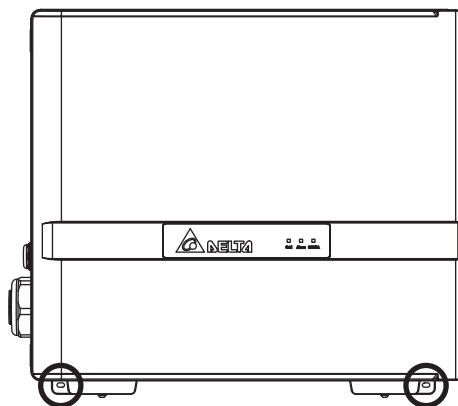

Figure 3-5: Positions of mounting screws
3. Secure the mounting bracket on the wall with 12 M6 screws. (**Figure 3-5**)
5. Secure the inverter by 2 M6 screws on the position* shown as **Figure 3-5**.